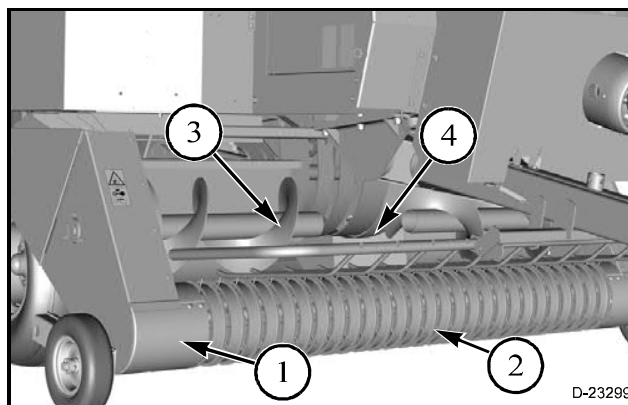

FIG. 8
FIG. 8: Continuous flow, straight through feeding is possible with the wide, low profile pickup assembly (1). Hay from the windrow is picked up by the closely located tines (2) of the pickup assembly and moved by an auger (3) into the stuffer chute (4). The in line stuffer chute feeds the baling chamber from the bottom.